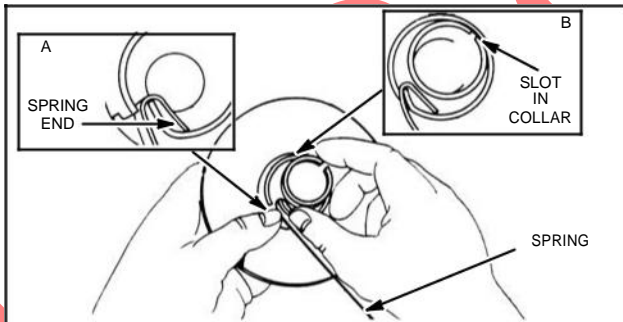

Fig. 590 – HOOKING SPRING ON PULLEY
8. Hook end of spring with straight hook in slot of pulley. Be sure spring end is tight against slot end, Fig. 590, Fig. A.